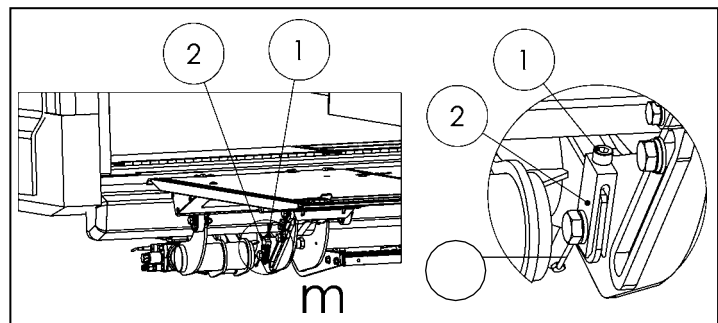

Figure 75
- To align the platform parallel to the vehicle floor – the non-foldable section, adjust the lifting gear using the left-hand adjustment fork (adjustment screw accessible from above) (see Fig. 75).